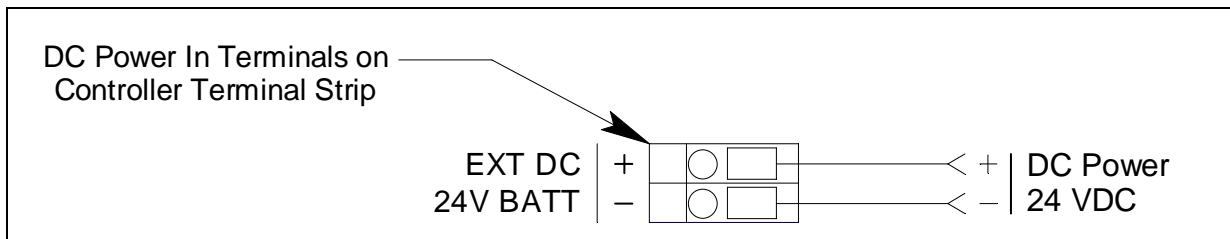

Figure 14: DC Power Wiring
6. Connect the DC power wires to the controller terminal strip as shown in Figure 14 below.